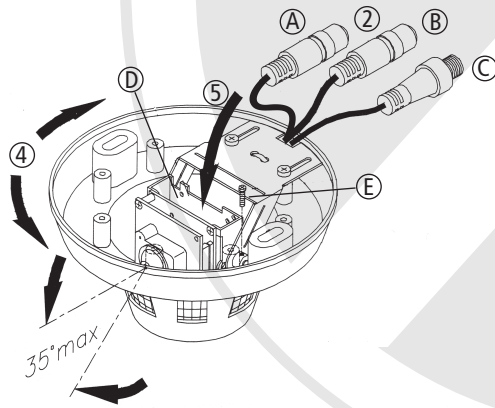

Figure 1
2. Connect the cables as follows: Audio to Phono Socket (A), 12V DC to DC Socket (B) and Video Out to BNC Socket (C) (see Figure 1) .
5. If it necessary to adjust the vertical viewing angle, do the following- loosen screw (E) with a screwdriver. Turn the camera board (D) to the desired angle (connect a monitor to make sure the viewing angle is correct or make any final adjustments). Tighten screw (E) to secure the vertical viewing angle (see Figure 1).